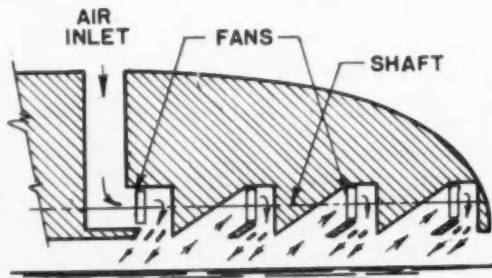

Fig. 2 — Labyrinth design uses viscous flow of air to seal pressure under vehicle.
I believe you have reversed the captions on figures 2 and 3 in your lead article "Six Ways to Lift an Air Cushion Vehicle" of the March 1960 SAE Journal, pg. 26-29. We originally pro-
**OUR MISTAKE!** The captions for Figs. 2 and 3 of the article "Six Ways to Lift an Air Cushion Vehicle" were transposed on page 27 of the March 1960 SAE Journal. . . Below are the figures and captions as they should have appeared: